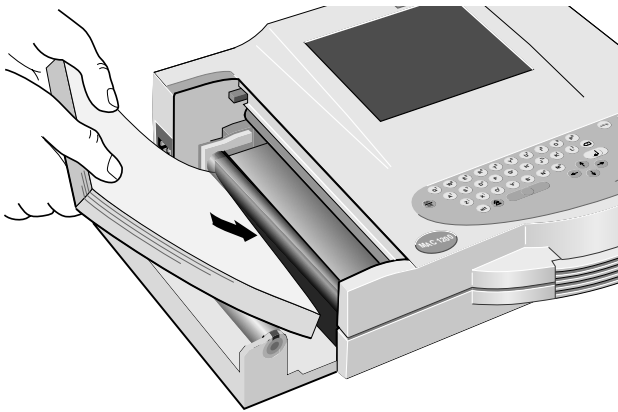

Figure 10-2. Inserting the new Z-fold pad
- Remove the cardboard from the top of the new pad and place the pad, including the cardboard backing at the bottom and with the arrow pointing towards the unit, into the paper compartment (Figure 10-2).